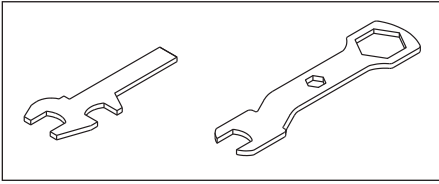

Figure 3
2. Use wrenches provided to loosen jam nut on jaw housing (See Figure 3).